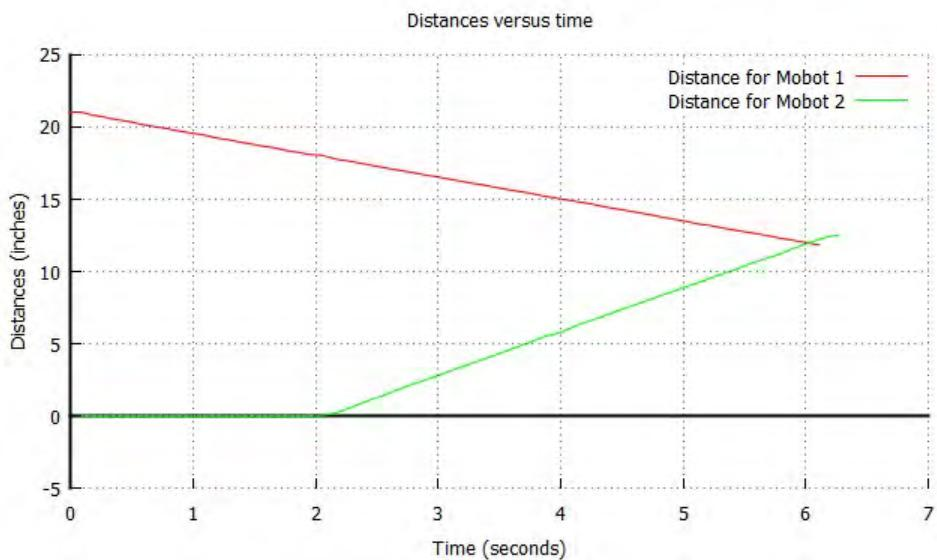

Figure 12.14: Two robots moving in opposite directions.
6. Write a program `recordinterceptdistoffset2.ch` using the member functions **driveDistanceNB()** and **driveDistance()** to reproduce Figure 12.14 shown in Exercise 4.